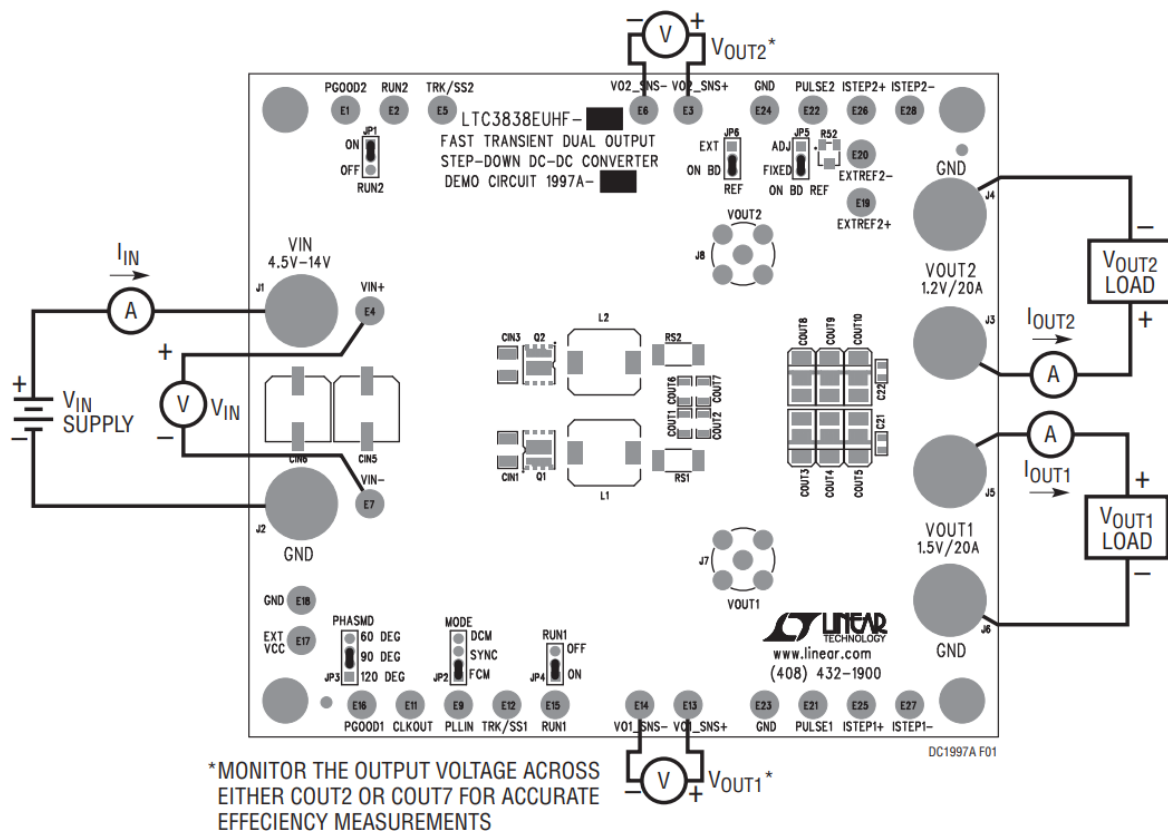

Figure 1. Proper Measurement Equipment Setup
Demonstration circuit DC1997A-A/DC1997A-B is easy to set up to evaluate the performance of the LTC3838EUHF-1/LTC3838EUHF-2. Please refer to Figure 1 for proper measurement equipment setup and follow the procedure below.
1. With power off, connect the input supply, load and meters as shown in Figure 1. Preset the load to 0A and VIN